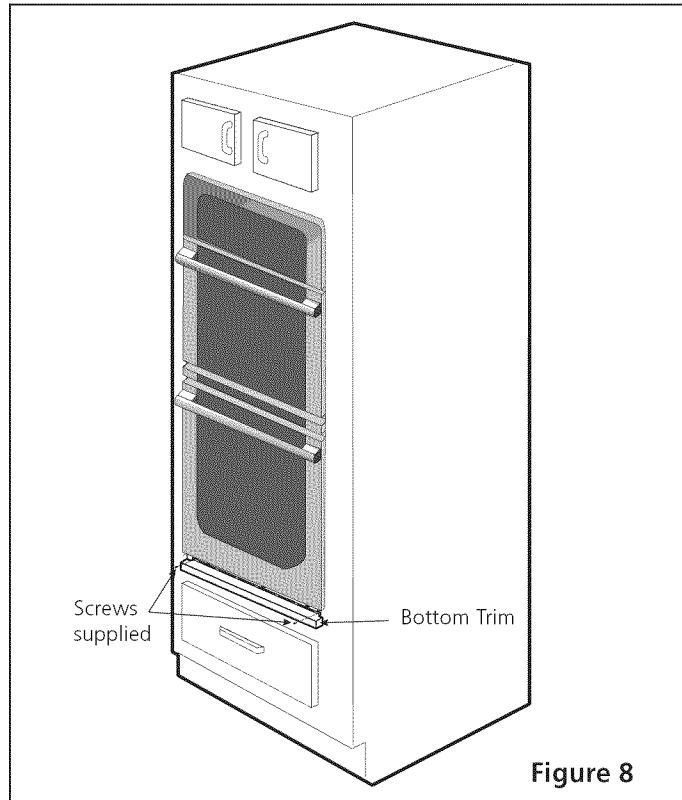

Figure 8
- 7** Install now the bottom trim using the screws supplied with the unit (Figure 8).